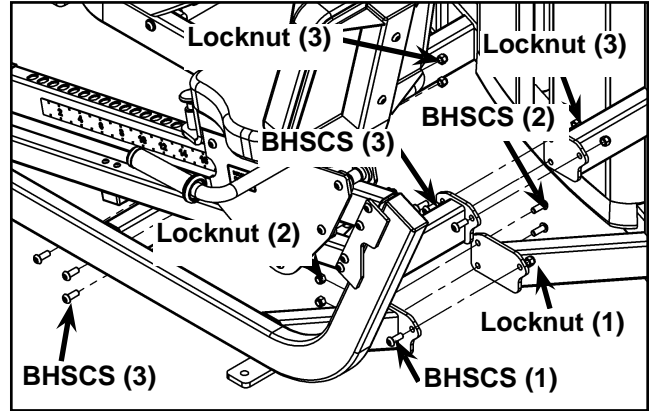

Figure 1
- B. With an assistant, carefully remove the nine Button Head Socket Cap Screws (BHSCS) securing the two halves of the frame. See Figure 1.
- D. With an assistant, carefully attach each half together using the nine BHSCS removed in step 4B. See Figure 1.